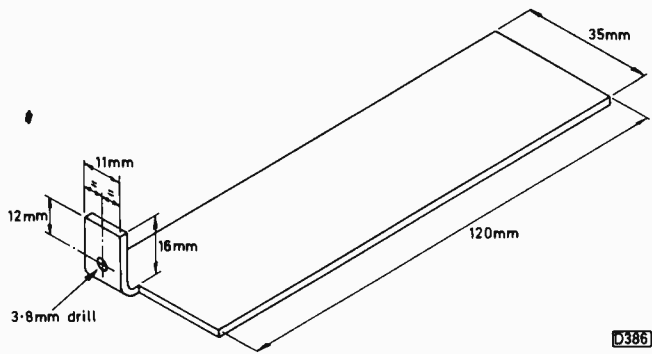

Fig. 3: Temporary heatsink for use when carrying out servicing work on the Spectrum.
- (1) Turn the machine over and remove the five screws – eight with the Spectrum Plus.
- (2) Turn it back, carefully holding the two parts together. Lift the top, tipping it on to its rear edge so that the keyboard tails can be removed from their sockets. Remember what we said when dealing with the ZX81 about the fragile nature of these tails: the Spectrum is just as vulnerable in this respect.
- (3) As with the ZX81, the machine should still initialise when the keyboard has been disconnected, and on start up should display “c 1982 Sinclair Research Ltd.” on the bottom line. The keyboard can be left disconnected until this has been achieved.
- (4) Before much serious work can be undertaken the heatsink must be removed to provide access to the components beneath. This is even more important with issue 3 and 3B models which have a larger heatsink that covers many of the more important components. The temporary heatsink I use when working on any Spectrum board is shown in Fig. 3. Don't worry if you cannot find a piece of copper or aluminium exactly the right size – the only important section is the little bent-up end which has to fit under the regulator. Even here, if your metal is too thin you can stick another shim of metal to the back so that the regulator legs are not distorted when you screw the heatsink underneath it.